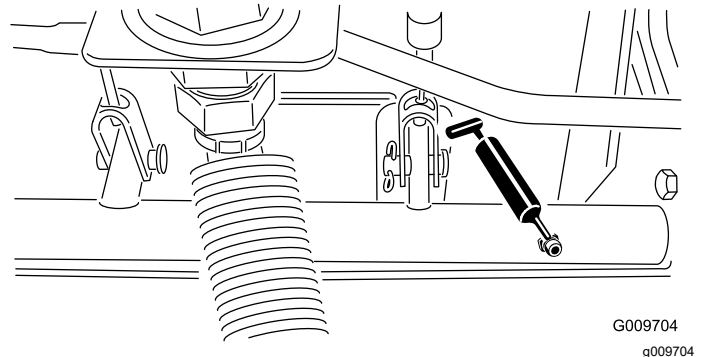

Figure 35
- Brake-shaft pivot bearings (5) as shown in Figure 35